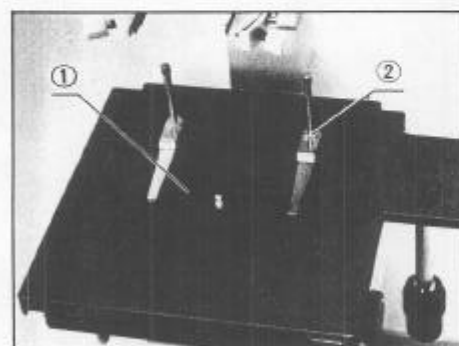

Fig. 5
Place a stage insert plate ① on the stage. (The insert plates are provided with inner diameters 20mm and 50mm. It is recommended to select a stage insert plate with an inner diameter slightly smaller than that of a culture vessel in order to prevent the vessel from toppling down.) (Fig. 5)